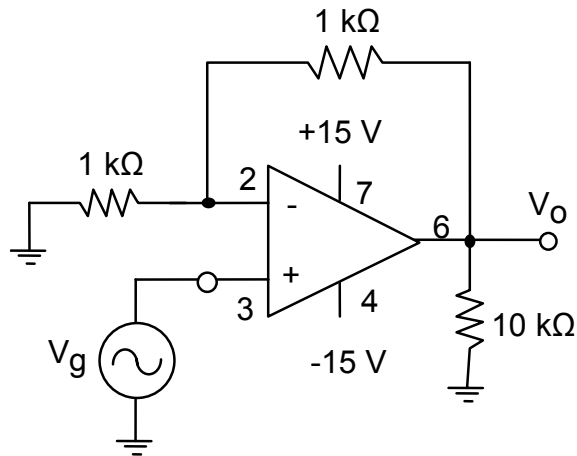

Fig 5: Non-inverting amplifier circuit
- (1) Assemble the non-inverting amplifier circuit shown in figure 5. Remember to shut off the +/-15 V supply before assembling a new circuit. Use the decade resistor box for the feedback resistor & the 1k resistor between pins 6 and 2).
- (2) Apply a 1 Volt amplitude, 1kHz sine wave at the input, and display both input and output on the oscilloscope. Measure the voltage gain of this circuit, and compare to the theory discussed in class. Make a plot of the input/output waveforms in your notebook.
- (3) Increase the feedback resistance from 1kΩ to 9kΩ . What is the gain now?
- (4) Increase the feedback resistance further until the onset of clipping, that is, until the peaks of the output signal begin to be flattened due to output saturation. Record the value of resistance where this happens? Increase the feedback resistance to 999kΩ. Describe and draw waveforms in your notebook. What is the theoretical gain at this point? How small an input signal would be required to produce a 10V amplitude sine wave at the output, given this gain? Try to adjust the function generator to this value. You may need to use the 0.2V button on the function generator, which reduces the output amplitude. Describe the output achieved.
- (5) Increase the amplitude of the function generator back to 1V and then disconnect the feedback resistor completely. The op-amp is now running "open-loop". Op amps used in this configuration are referred to as "voltage comparators". The output can assume one of only two states (voltage levels), which reflect a comparison of the input voltages. To see this, complete the following statement for this circuit: